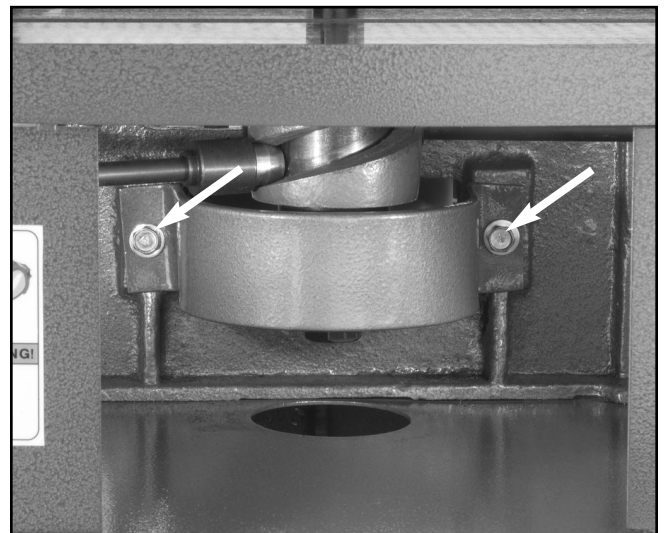

Figure 27. Spindle pulley cover mounting bolts.
2. Take off the spindle pulley cover by removing the two mounting bolts shown in **Figure 27**.